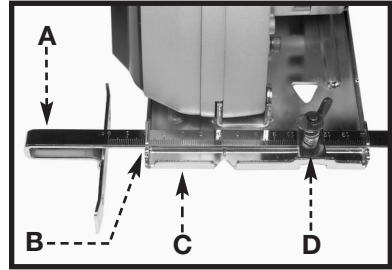

Fig. 12
Using the cutting guide (A) Fig. 12 will provide more accurate cuts than by cutting free-hand.
For installation, insert the cutting guide (A) Fig. 12 in the mounting slot (B) at the front of the base plate (C). Select the desired cut width on the cutting guide and tighten the wing nut (D) to lock.